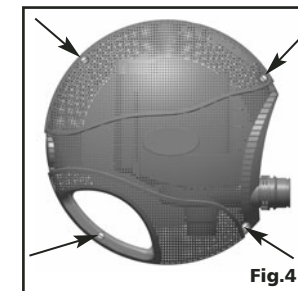
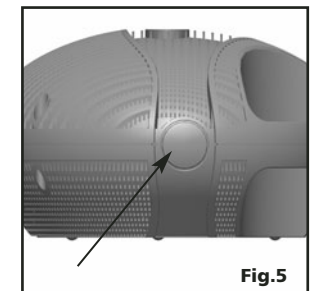

Fig.4
Fig.5
Opening and Closing the Pump Cage (see Fig. 4)
- 1) Open the pump cage by unlocking the pivot pin fasteners (Fig. 4)
- 2) The Pump Cage is equipped with a pre-scored section (Fig. 5) that must be cut out with a suitable cutting tool
- 3) Insert a Remote Adapter (9) in the scored opening at the back of the Pump Cage
- 4) Close the cage, ensuring that the two halves are properly aligned and coupled, and then lock them with the pivot pin fasteners (Fig. 4) on the unit
- Remove the pump cage from the pond, unlock the pivot pin fasteners (Fig. 4) and remove the upper half of the cage. Clean all components with streaming water from a garden hose. Reassemble all components with care
Take the pump out of the pond, unlock the pivot pin fasteners (Fig. 4) and remove the upper half of the cage. Free the pump from the lower half of the cage.